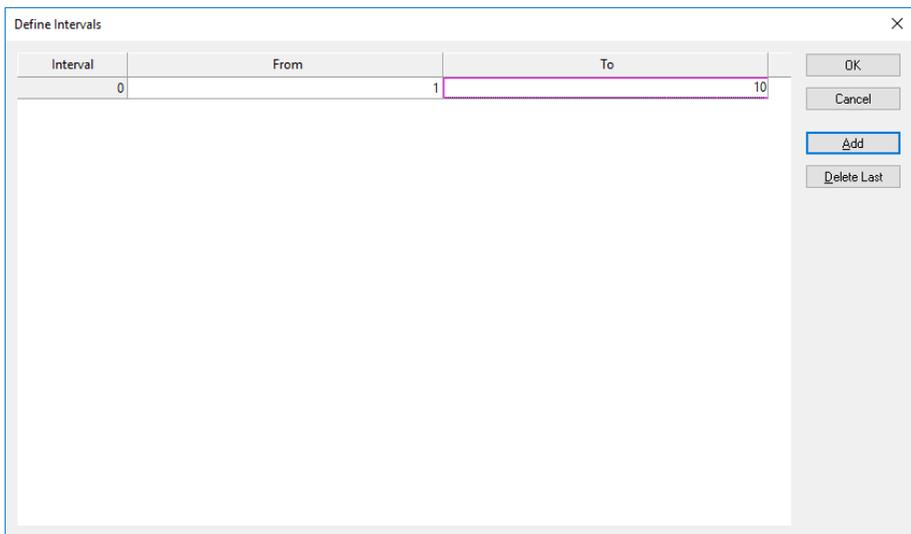

Figure 8-1. Define Intervals Dialog with 10 Year Time Interval Defined
- ⇒ Enter a 1 in the "From" column and a 10 in the "To" column. The dialog should look like Figure 8-1